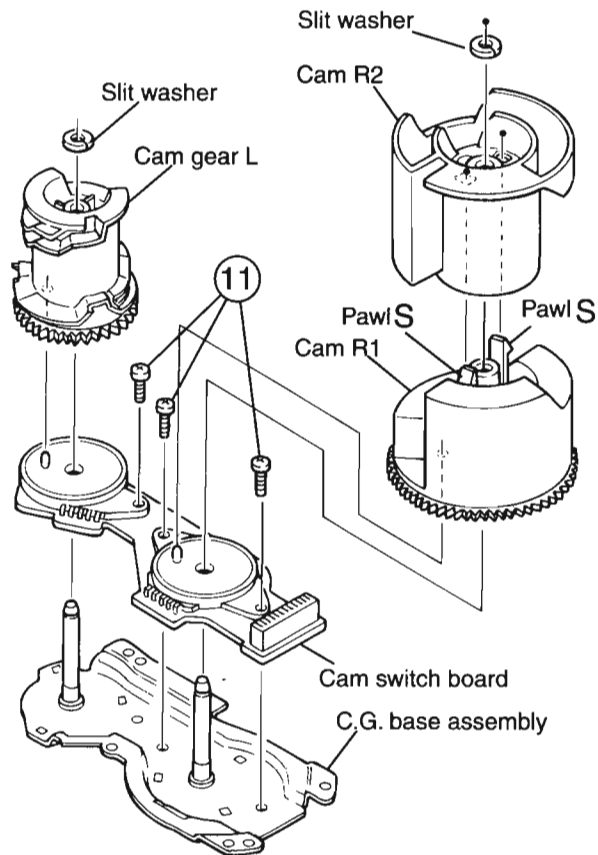

Fig.23
**■ Removing the cams R1/R2 assembly and cam gear L(See Fig.23)**
**■ Removing the C.G. base assembly (See Fig.23 and 24)**